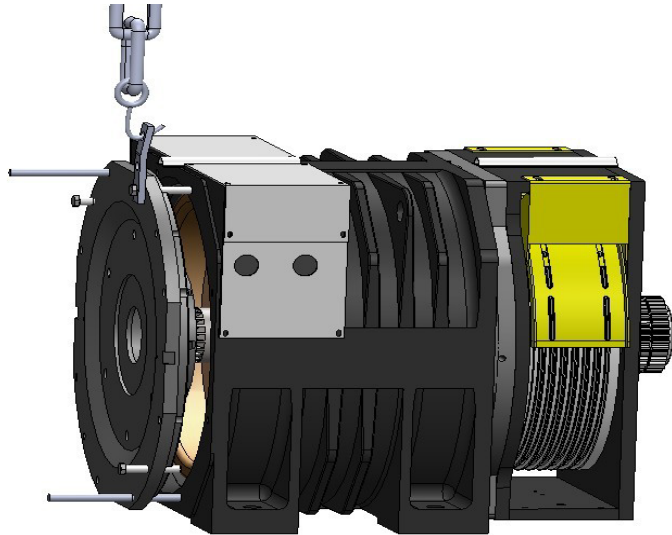

Figure 75 Install End Cover
5. Hammer the End Cover with a rubber hammer evenly, and make it in the bearing well. See Figure 75.